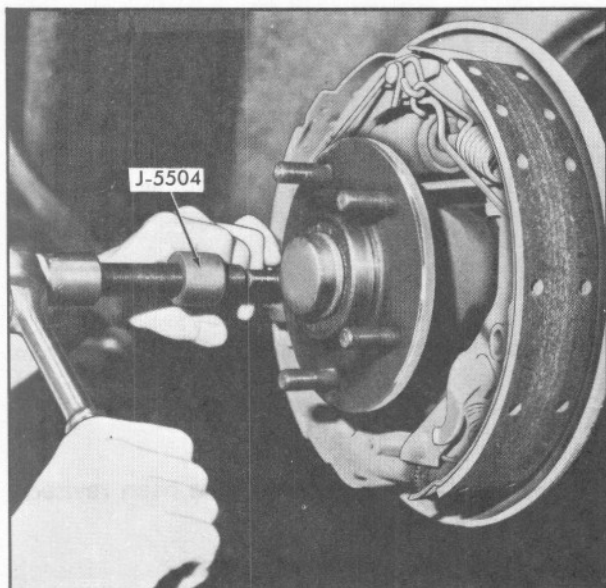

Fig. 4-3 Removing Stud (E-Car Rear)
4. Install tool J-5504 on damaged stud and press stud from hub, Fig. 4-3.